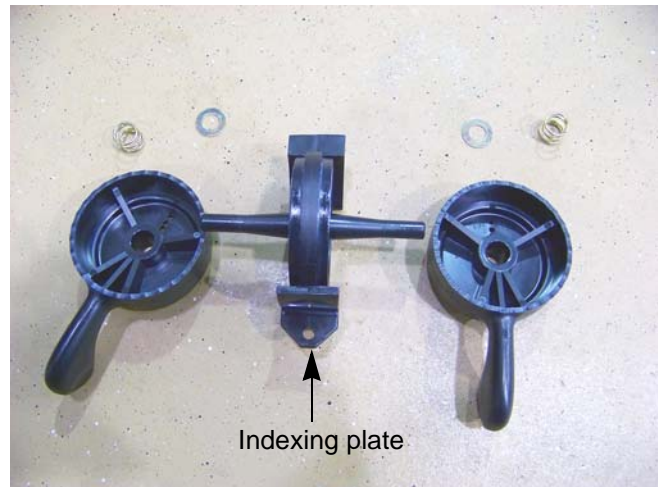

Figure 2.19
8. Slide the levers off of the indexing plate. See Figure 2.19.